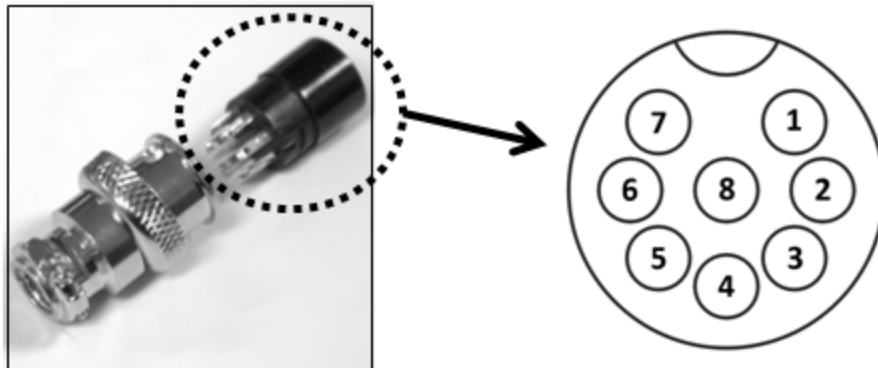

Figure 5 - Pin Numbers
- (b) Solder 3 wires (22AWG) to pins 1, 2, and 3 of pin plug as shown in Figure 5.